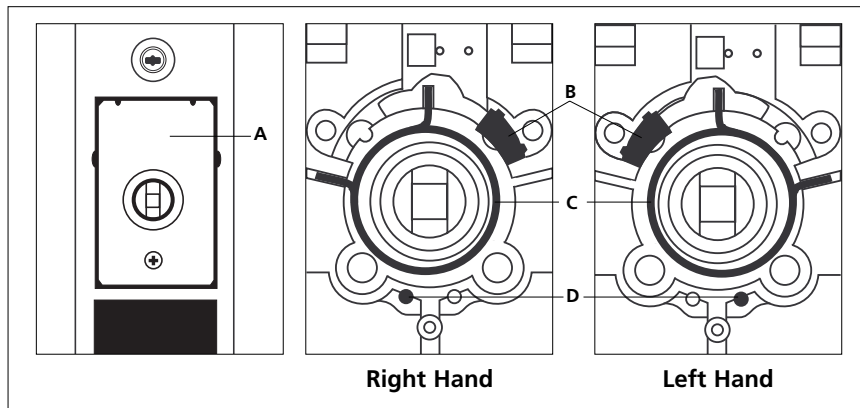

Figure 17
- 7) With a screwdriver, rotate the override cam (D) on the inside housing counter clockwise, until it stops. Then return it to the horizontal position (see Figure 17)
Inside Housing Assembly (see Figure 17)